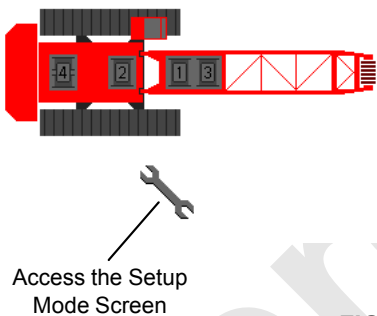

FIGURE 3-31
2. Scroll to and enter the setup mode screen (Figure 3-31).